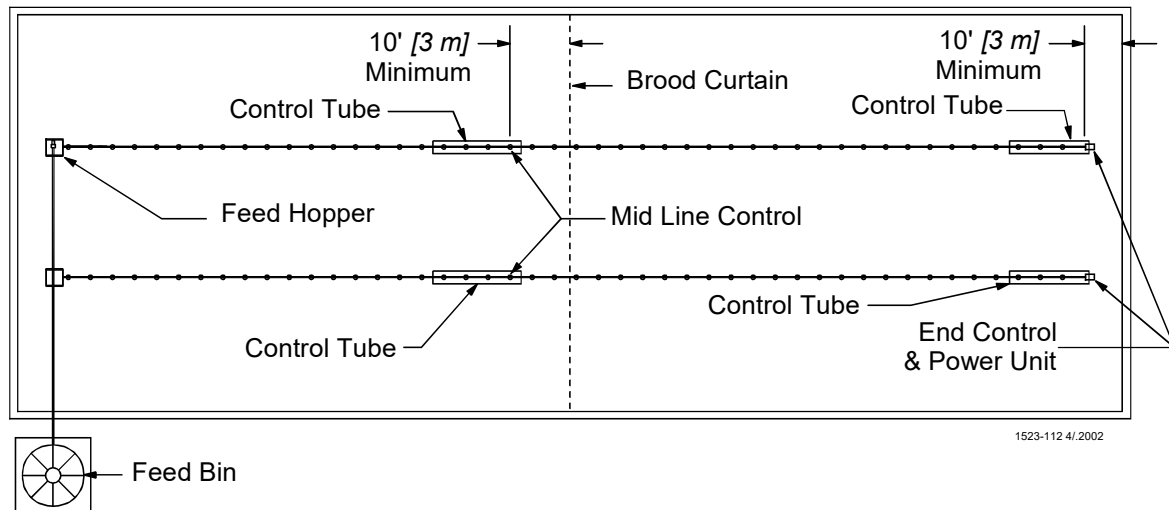

Figure 1. Component location diagram for systems up to 400 feet [122 m]. (Top View).
- A. Optional Mid Line Controls may be used for partial house brooding. See **Figure 1**.